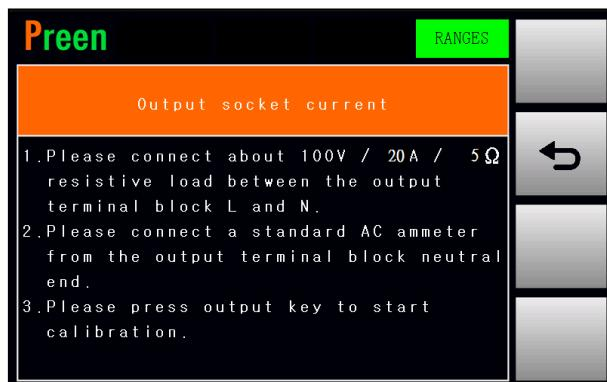

Figure 4.19 Enter into the page which calibrates the output socket current
1. Press the item **Output socket current** repeatedly to enter into the page which calibrates the output socket current (refer to Figure 4.19).